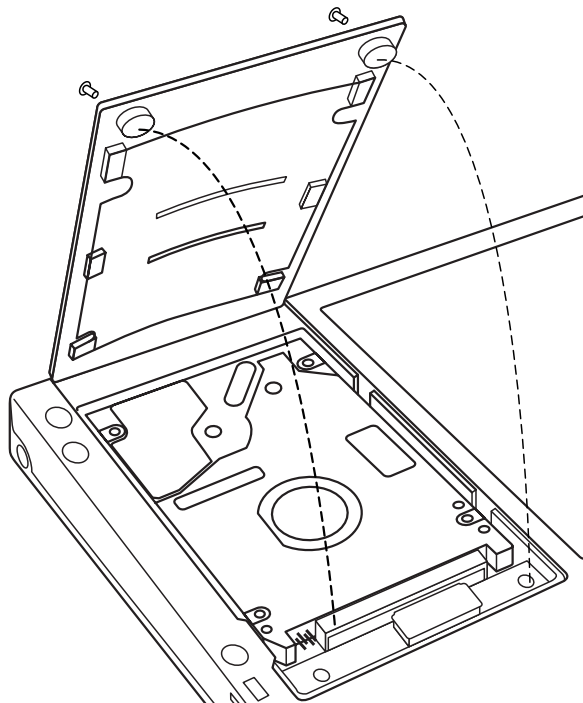

Figure A-1: IDE Hard Disk Drive Cover Plate
2. Using a Phillips screw driver (size #1), remove the two screws in the hard disk drive cover plate and remove it as shown in Figure A-1:.
To install the hard disk drive, refer to Figures A-1 through A-5, and perform the following steps: